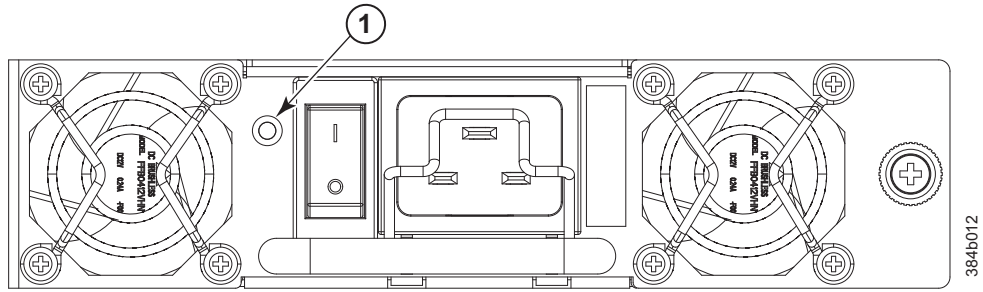

Figure 30. Power supply
1. Check the LED indicator on the power supply (see Figure 30 on page 59). The LED patterns may temporarily change during POST and other diagnostic tests; for information about how to interpret the LED patterns, see Table 12 on page 59.